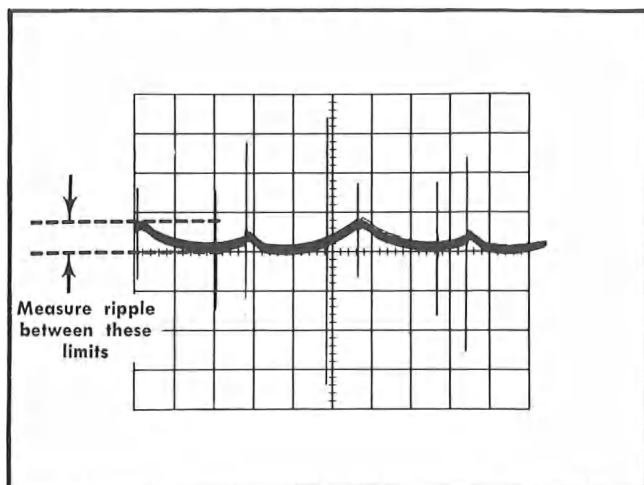

Fig. 5-5. Typical test oscilloscope display of power-supply ripple (sweep rate 20 microseconds/division).
²Disregard fast spikes; see Fig. 5-5.
b. CHECK—Test oscilloscope display for maximum ripple of each supply as listed in Table 5-1. Fig. 5-5 shows a typical display of ripple and the levels between which the ripple measurement should be made. Power supply test points are shown in Fig. 5-2 and 5-4. Change the test oscilloscope vertical deflection factor as necessary to provide the correct display of ripple.